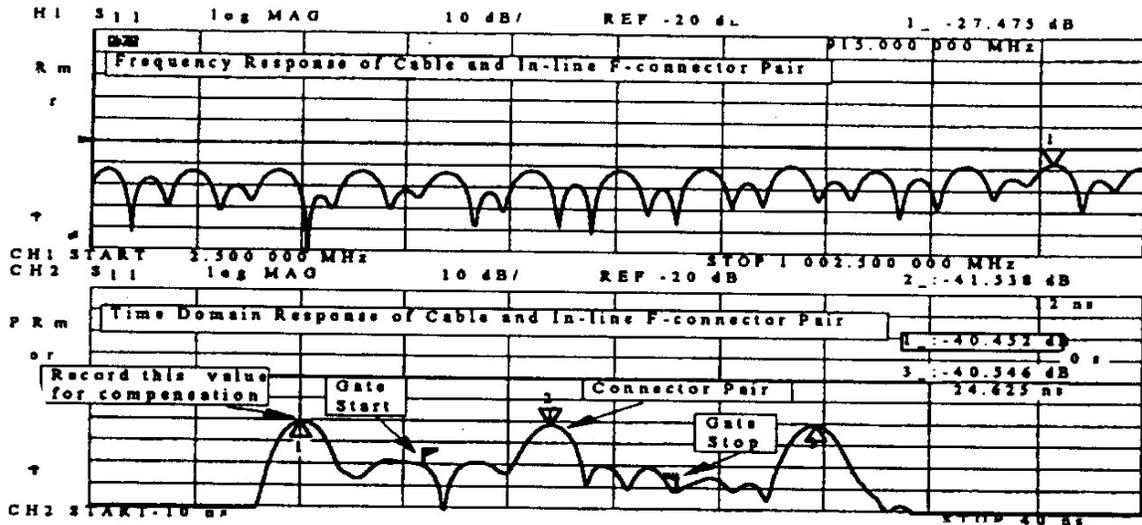
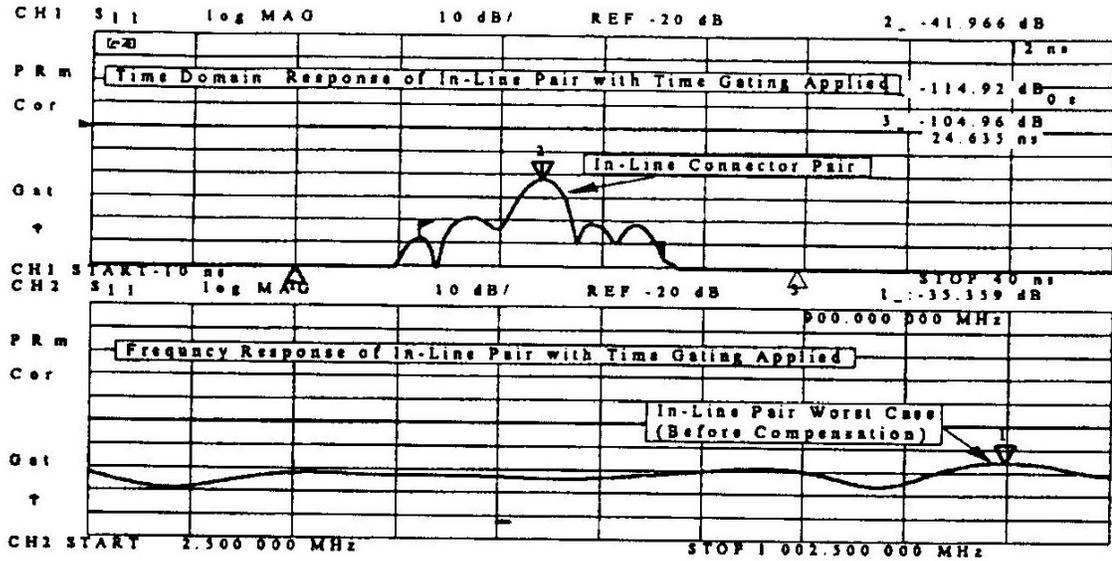

Figure 3 – Frequency and Time Response of “F” Connector Pair
Figure 4 – Time Gated Response of In-Line “F” Connector Pair
- 5.5 Prepare the test sample as described in 4.2. Connect this to the network analyzer. The reflection trace should show a ripple pattern, which is a beat pattern from both ends and the middle connector, as seen in the upper trace in Figure 3.
- 5.6 Under the System key, select the TRANSFORM menu. In this menu select the TRANSFORM ON. With time domain on, set the start time to -10 ns, and the stop time to 40 ns. You should see three returns, one from the near end, and one from the far end, and one from the middle, at approximately 12 ns. Record the value of reflection for the input connector (at time = 0 sec.). Set the gate start time to halfway between the near end return and the middle return (approx. $+6$ ns), and the gate stop time to halfway between the middle return and the far end return (approx. $+18$ ns). The lower trace of Figure 3 shows a typical example of the three returns.
- 5.7 Turn the gating ON. The time domain pattern of the return loss should change to show only the response of the middle connector. With gating ON, the near and far end return should disappear. A typical example trace is shown in the upper part of Figure 4.
5.8 Turn the gating ON. The time domain pattern of the return loss should change to show only the response of the middle connector. With gating ON, the near and far end return should disappear. A typical example trace is shown in the upper part of Figure 4.
5.9 With gating left ON, turn the transform OFF to see the time gated frequency response. The ripple pattern of Figure 3 should change to show the frequency response of only the in-line “F” connector pair. The lower track of Figure 4 shows a typical time gated frequency response. A marker is positioned at the worst-case point. Note that there may be some small edge effect at the start and stop of the trace.